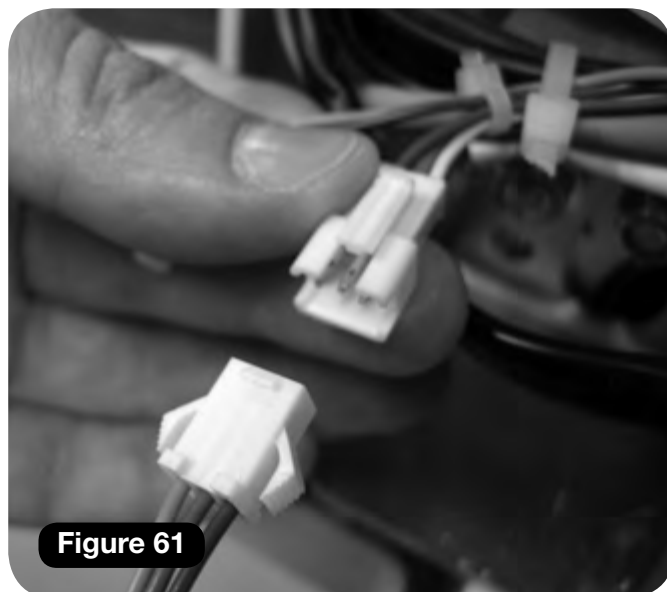

Figure 61
- Connect the toggle loom (orange, blue and green) **(Figure 61)**.